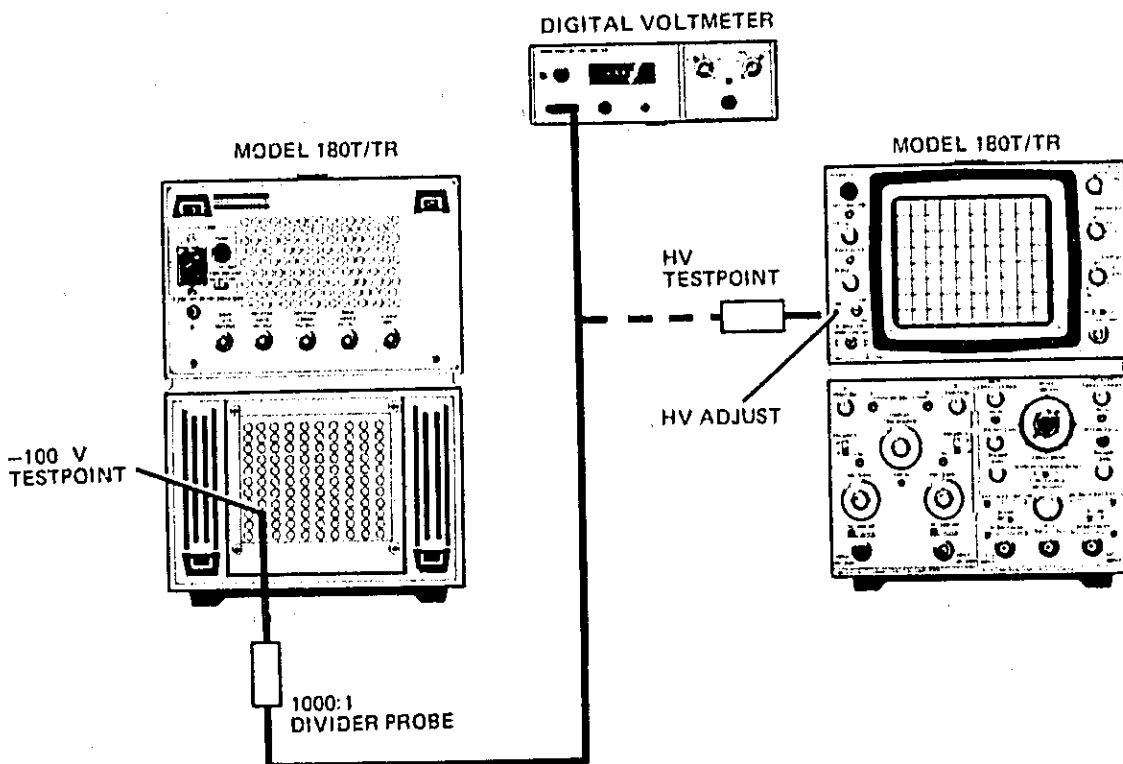

Figure 5-6. High Voltage Adjustment Test Setup
- a. Monitor -100 V at A1A2TP4 with dc voltmeter using a 1000:1 divider probe (see figure 5-6).